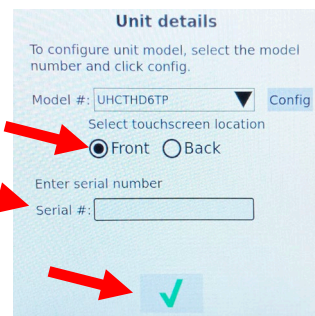

Figure 19
- j) Press the Serial # field and use the keyboard to enter the serial number of the cabinet. When finished press the return key and Figure 19).